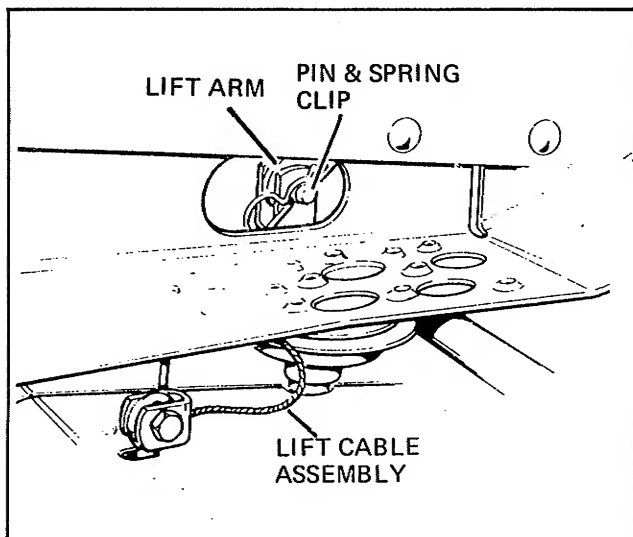

Figure 5.
6. See Figure 5. If the mower is to be used with the revitalizer, remove the lift chain or cable from the tractor lift arm when operating. This is especially beneficial in reducing lifting effort on tractors not equipped with power lift since the revitalizer should be raised when turning to prevent excess lawn damage. It is not advisable to raise the mower when turning if the mower is engaged since operating the mower in the raised position will reduce the life of the mower drive belt.